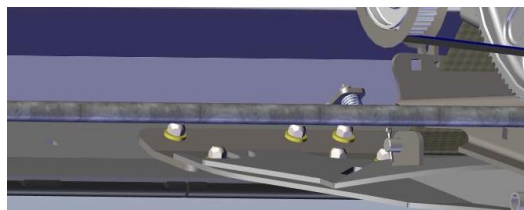

Figure 3
7. Remove the bolts retaining the front of the paddle. Note: the carriage bolts are different lengths. Make locations for easier installation when assembling. Figure 3